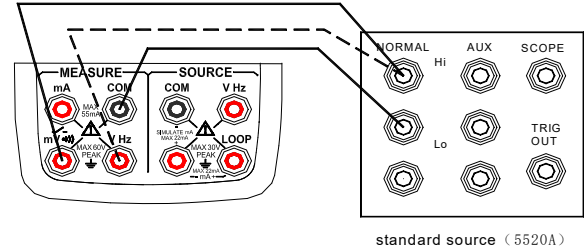

Figure 16 Calibrating DC voltage and frequency
Step 3: Connect the lead cables to the output terminals of the standard source as shown in Figure 16.